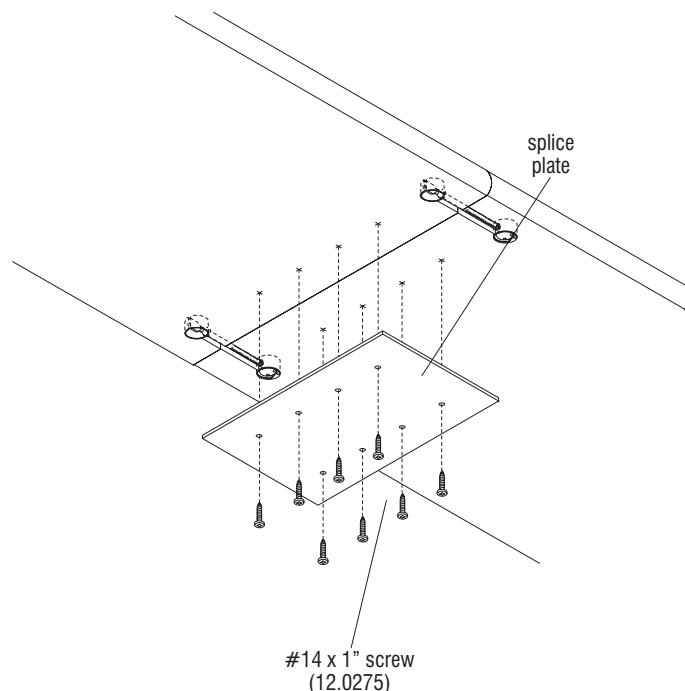

Figure 4
10. Install a 6" x 10" splice plate over the joint, at the underside of the table top for reinforcement. Use eight #14 x 1" screws in the pre-drilled holes torqued to 100 in/lbs to secure (Figure 4). Continue securing all joints with adhesive, KV fasteners and splice plates along the run of table tops. Tops over 24" wide will have two splice plates and 16 screws.